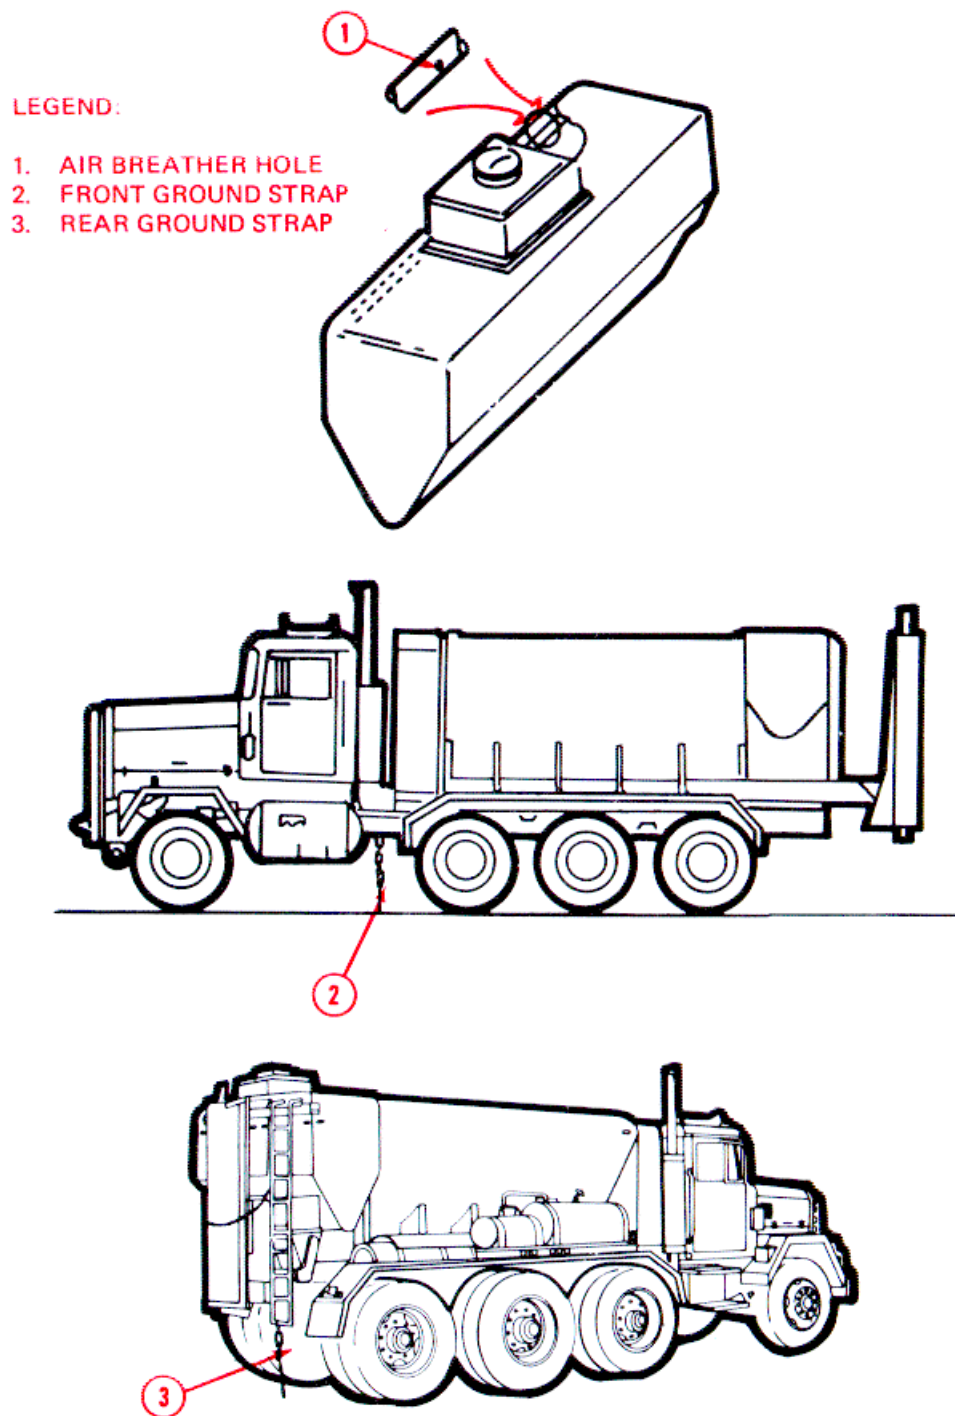

Figure 2-12. Meter-Feeder Calibration.
(n) Remove auxiliary cement bin or quick loading hopper and inspect air breather hole (fig.2-12). Hole (1) must be free of all dust or dirt. Clean, if required, using a stiff wire.